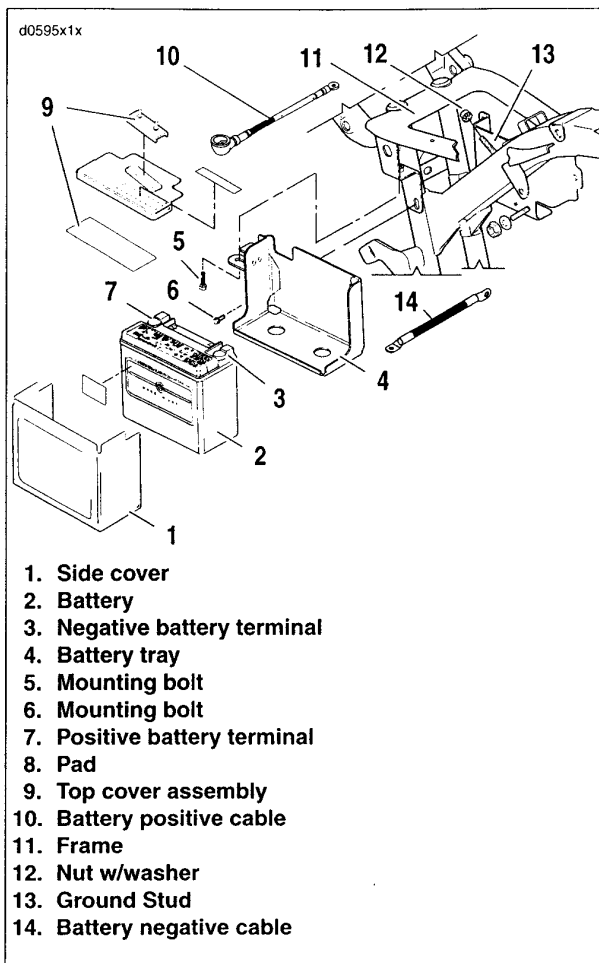

Figure 1-8. Battery Assembly
2. See Figure 1-8. Remove nut (12) from ground stud (13) on frame (11).
3. Remove battery negative cable (black, 14) from ground stud (13).
4. Unbolt and remove battery positive cable (red, 10) from battery positive (+) terminal (7).
5. Remove lower rear bolt (6).
6. Remove upper rear bolt (5). Battery tray (4) will swing down allowing battery tray to be removed.
7. Remove top cover assembly (9).
8. Remove side cover (1) if present.
10. If battery is to be replaced, unbolt and remove battery negative cable (black, 14) from battery negative (-) terminal (3).
1. See Figure 1-8. If battery has been replaced, insert bolt through battery negative cable (black, 14) into threaded hole of battery negative (-) terminal (3). Tighten bolt to 60-96 in-lbs (6.8-10.9 Nm).
2. Place the fully charged battery into the battery tray (4), terminal side facing primary cover.